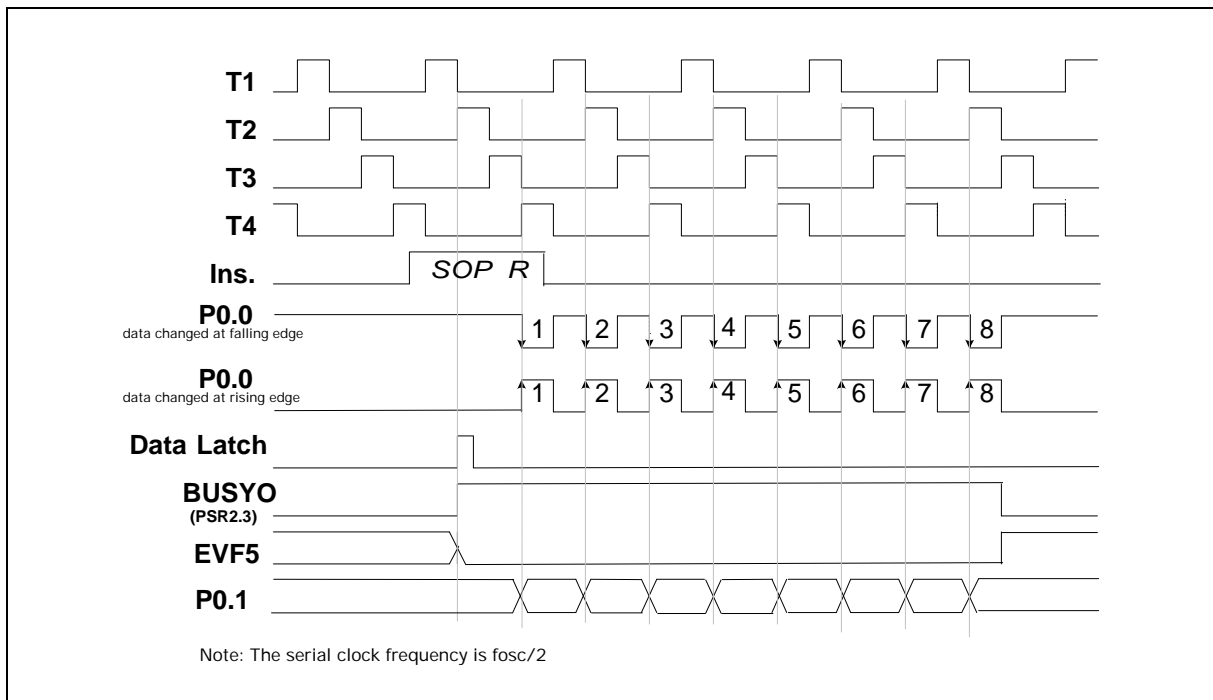

Figure 5-13 Timing of the Serial Output Function (SOP R)
(2) When the **SOP R** instruction is executed, the data will be loaded to the serial output buffer (SOB) from ACC and the RAM, the low nibble data of SOB is from ACC register and the high nibble data is from RAM, and bit 3 of port status register 2(PSR2) will be set to "1" ($BUSYO = 1$). Then the P0.0 pin will send out 8 clocks or accept 8 clocks from external device and the data in SOB will be sent out at the rising or falling edge of the P0.1 pin. After the 8 clocks have been sent, $BUSYO$ will be reset to "0" and $EVF.5$ will be set to "1." At this time, if $IEF.5$ has been set ($IEF.5 = 1$), an interrupt is executed; if $HEF.5$ has been set ($HEF.5 = 1$), the hold state is terminated. Users can check the status of PSR2.3 ($BUSYO$) to know whether the serial output process is completed or not. If a serial output process is not completed, but the SOP R instruction is executed again, the data will be lost. The timing is shown in Figure 5-13.